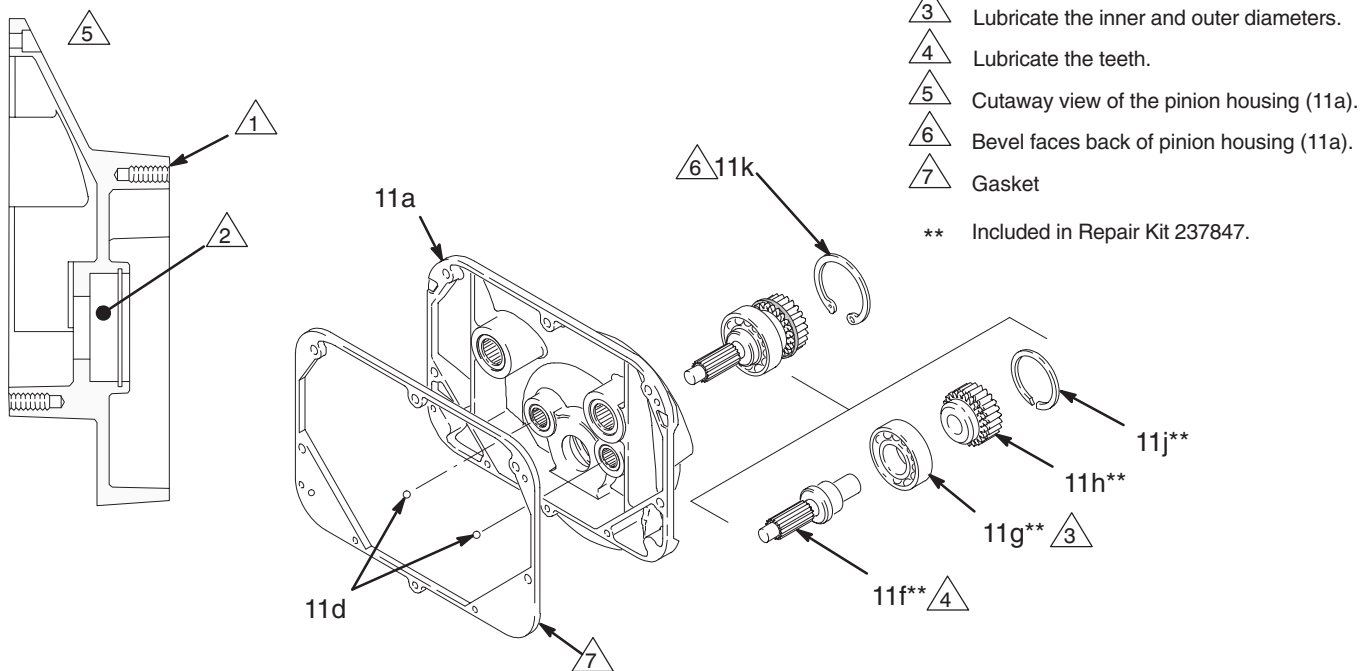

Fig. 13
Replacement of the pinion shaft (11f**), bearing (11g**), or splined hub (11h**) (Fig. 13, page 22) requires removal of the pinion housing (11). Follow steps 1 through 4 below.
3. Remove the two bottom screws (10) and lock-washers (9) first, then remove the two side screws (10) and lockwashers (9), and last remove the top screw (10) and lockwasher (9).
4. Pull the pinion housing (11) away from the clutch housing (2). The armature (4b) will come with it.
5. Pull the armature (4b) off the hub (11h**) of the pinion housing. Also see Fig. 13.
6. If replacing the complete pinion housing assembly (11), brush G-n lubricant (supplied) on the pinion shaft teeth. Then recoat the pinion shaft teeth with bearing grease (supplied). Pack the remaining bearing grease in the bottom part of the pinion housing. Use all of the bearing grease.
7. Install new gasket (109) (supplied).
NOTE: Refer to Fig. 13 except where noted.
4. Install the rings (11k and 11j**). Be sure to install 11k with the bevel facing the back of the housing. See Fig. 13.
5. Install new gasket (109).
6. Reassemble to drive housing (12). See step 10 on page 18 for the timing procedure.
5. Apply lubricant to the parts as shown in Fig. 13.
8. Install the rings (11k and 11j**). Be sure to install ring 11k with the bevel facing the back of pinion housing (11a). Install the small ring (11j**). See Fig. 13.
Examine the splined hub (11h**, Fig. 13, page 22) for wear. Replace as needed. Follow the Pinion Housing instructions, page 21.